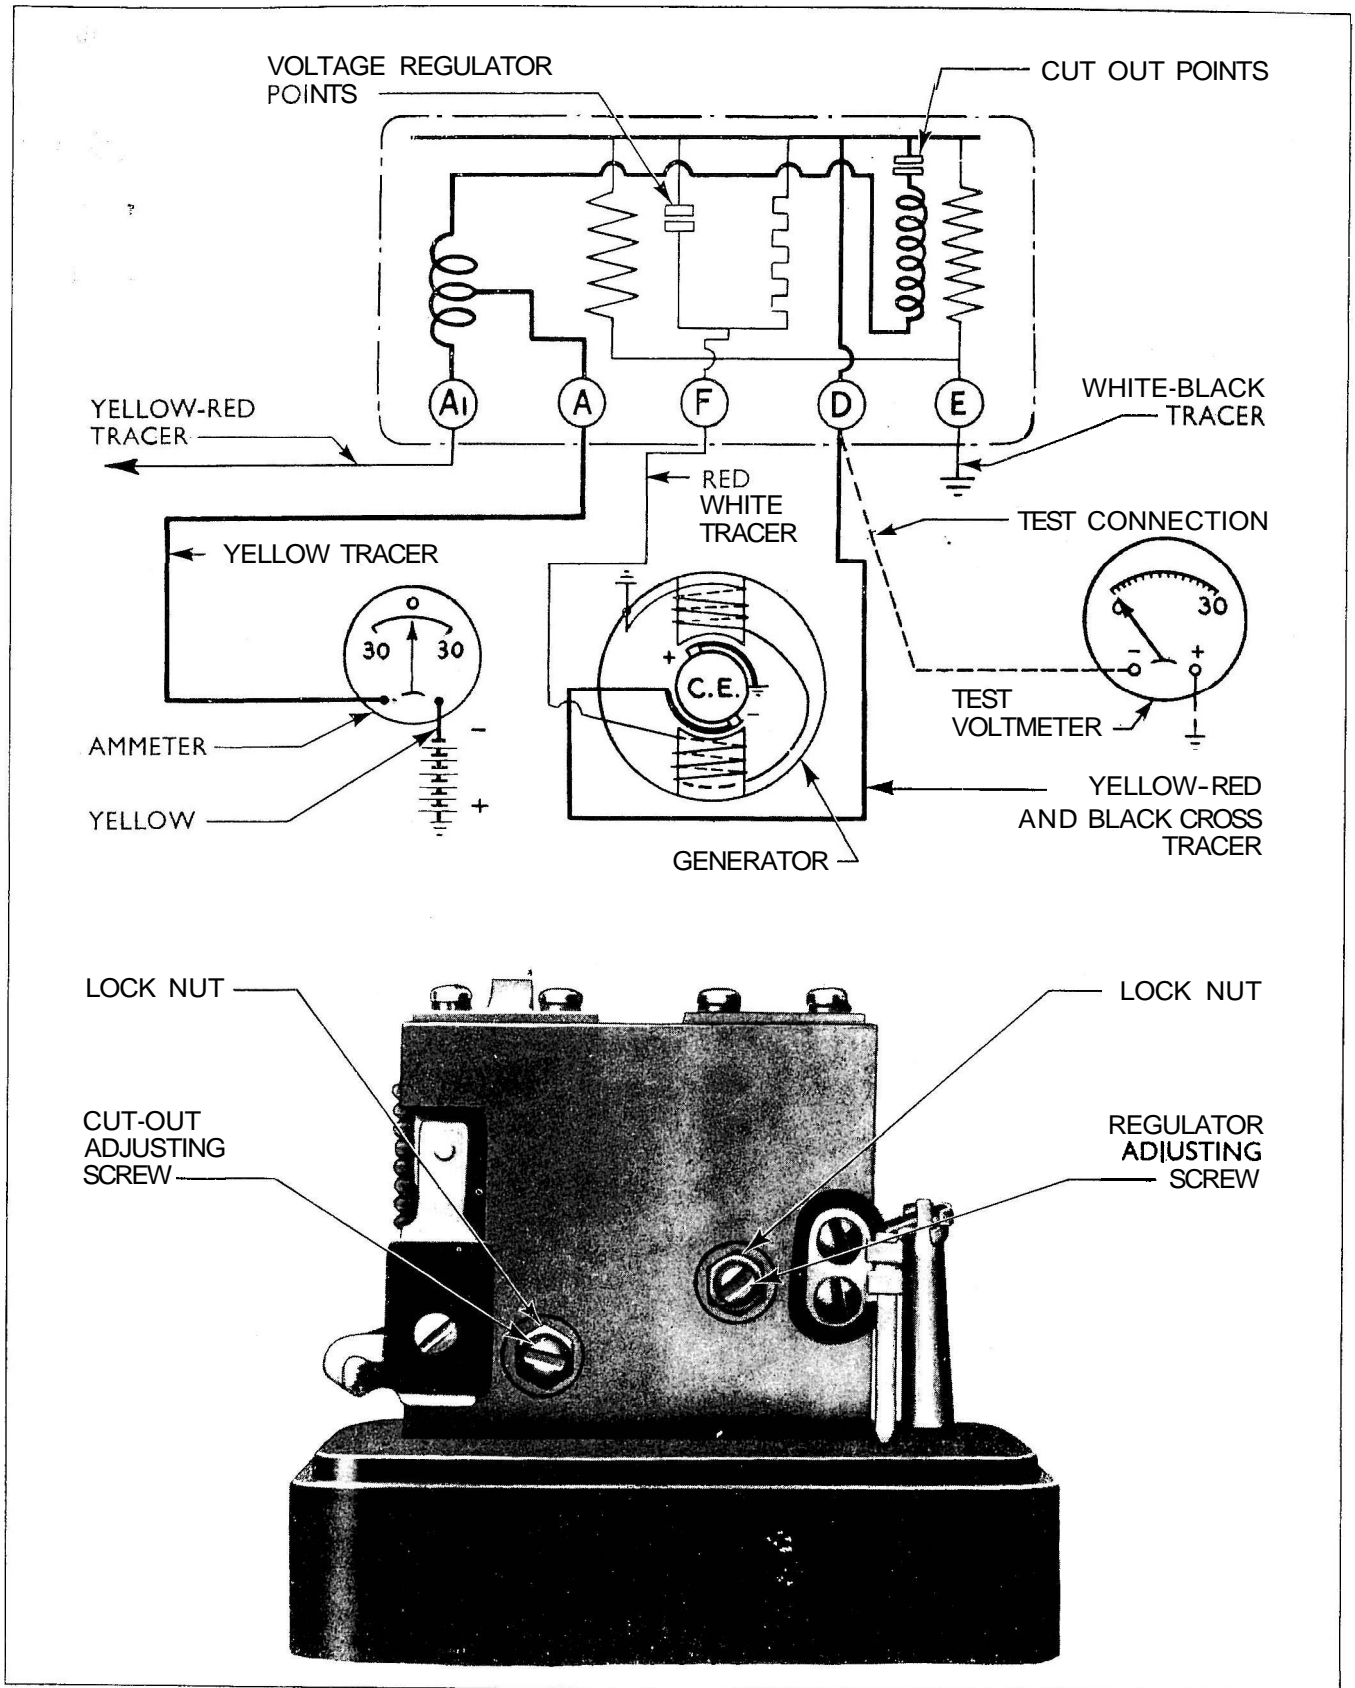

Fig. 241
- 1 Insulate the cut-out points with a thin strip of mica or withdraw the cables from the terminals marked "A" and "A1" (see Fig. 241) and join them together.
- 1 Connect the voltmeter between the "D" terminal and a good earth. (See Fig 241.)